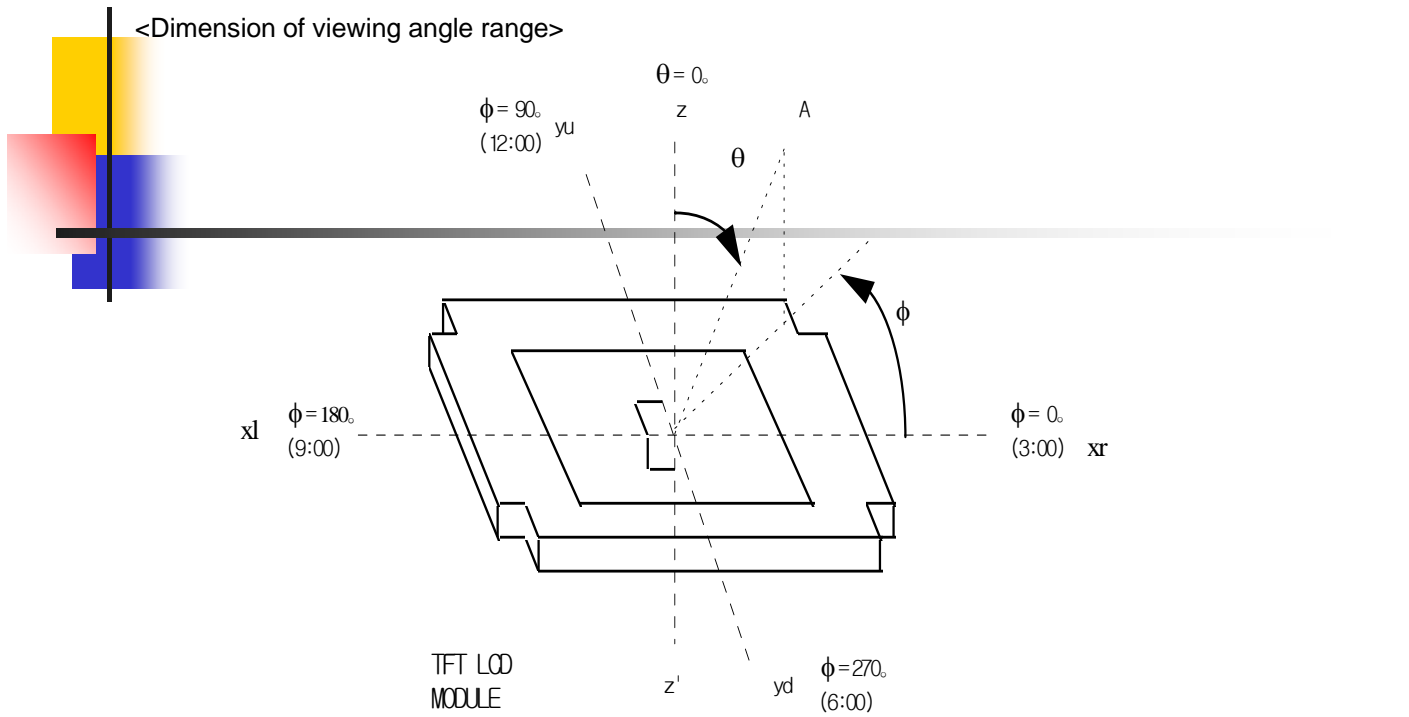

**Figure 11. Response time**
4. Response time is the time required for the display to transition from white to black(Rise Time,  $Tr_R$ ) and from black to white(Decay Time,  $Tr_D$ ). For additional information see [ Figure 11 ].